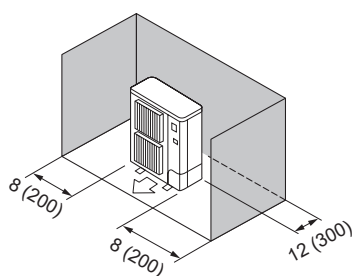

Fig. 2-7
- ③ Obstacles at rear and sides (Fig. 2-7)